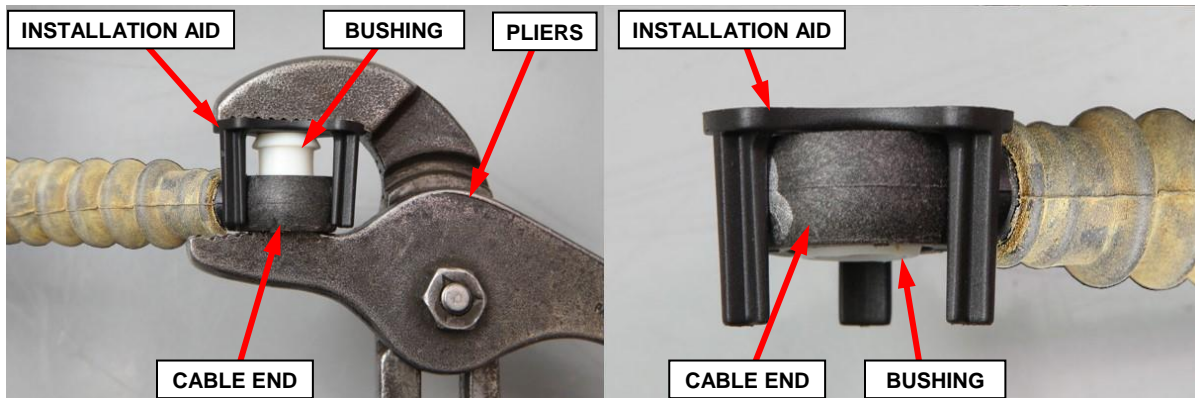

Figure 17 – Squeeze Installation Aid with New Bushing into Cable End
- Using pliers, squeeze the installation aid with new bushing into the cable end until fully seated (Figure 17).